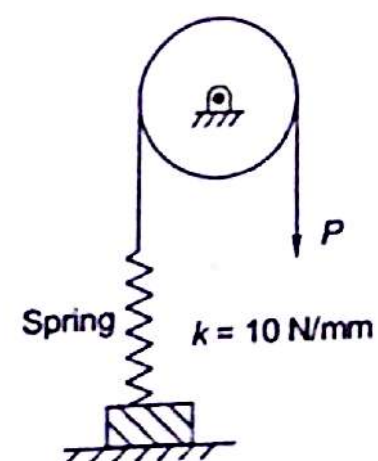

Fig. 3.56
- 3.3 A 50 kg mass is supported on the ground. It is tied to a rope through a spring of stiffness 10 N/mm. The rope passes over a pulley supported in a frictionless bearing. At the end of the rope a force of 200 N is applied as shown in Fig. 3.56.